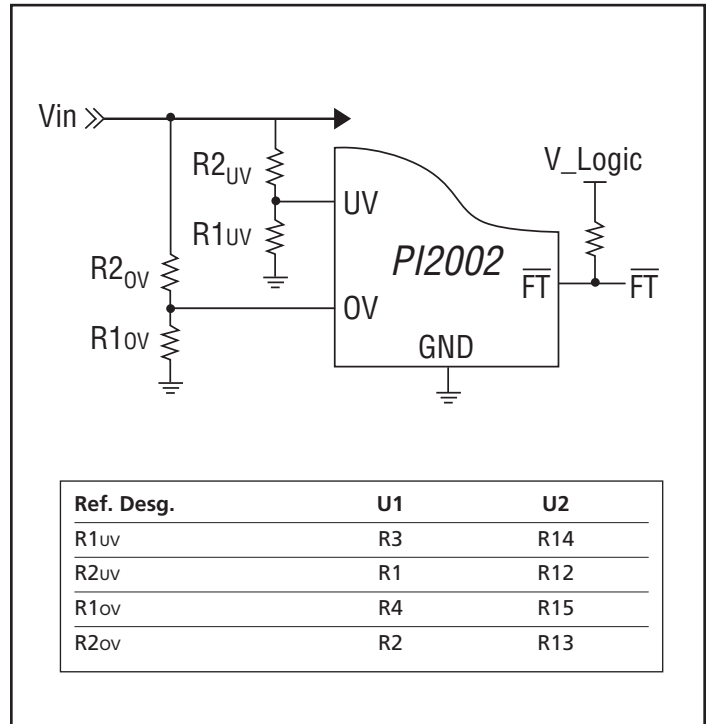

Figure 4 – UV & OV two-resistor divider configuration
2.1 UV and OV programmable resistors are configured for a 3.3 V  $V_{in}$  (BUS voltage) application in a two-resistor voltage divider configuration as shown in Figure 4. UV is set to 2.6 V and OV is set for 3.8 V,  $R1_{ov}$  and  $R1_{uv}$  are 2.00 K $\Omega$  1%. If PI2002-EVAL1 is required to be used in a different  $V_{in}$  voltage application please follow the following steps to change the resistor values.